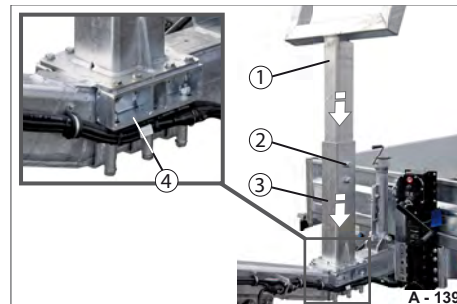

Fig. 199 Conveyor belt carrier assembled
- Position the mount (Fig. 199/3) with shoe console (Fig. 199/4) on the drawbar.
- Insert the U-tube fork (Fig. 199/1) at the top into the mount.
- Tighten down the bolt connection (Fig. 199/2).